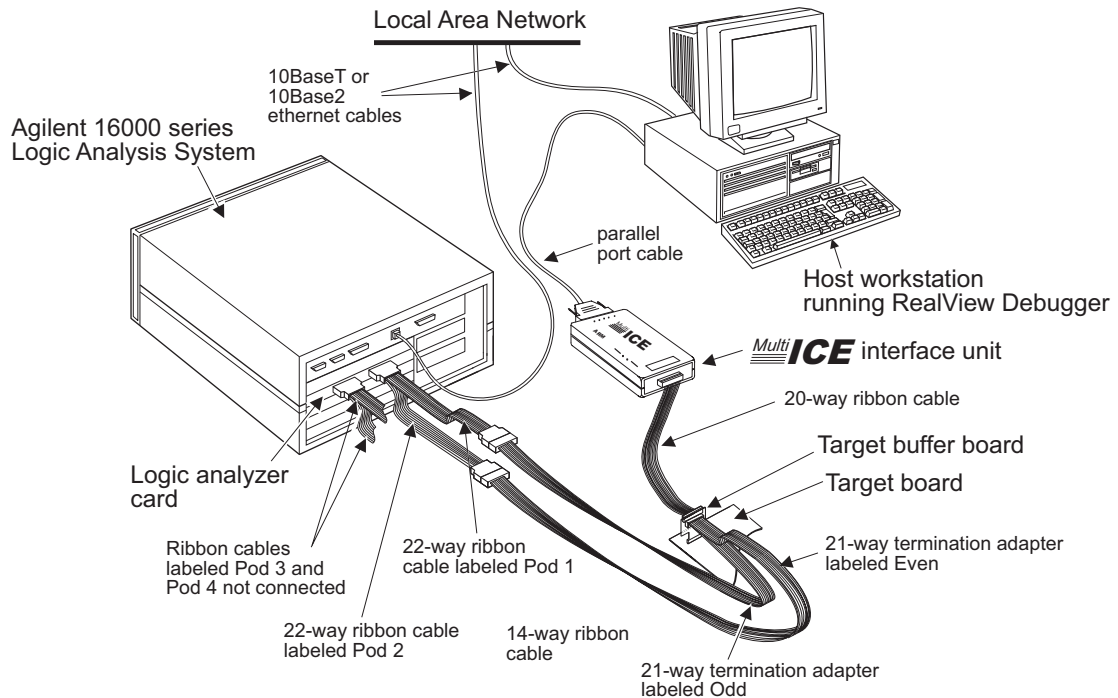

Figure A-4 Agilent Trace Port Analyzer and Multi-ICE Version 2.2
4. Connect up the rest of the hardware as shown in Figure A-4 on page A-8.
The difference between this configuration and the Agilent-only configuration is that the Agilent Emulation Module is replaced by the Multi-ICE interface unit. Figure A-4 shows this configuration.